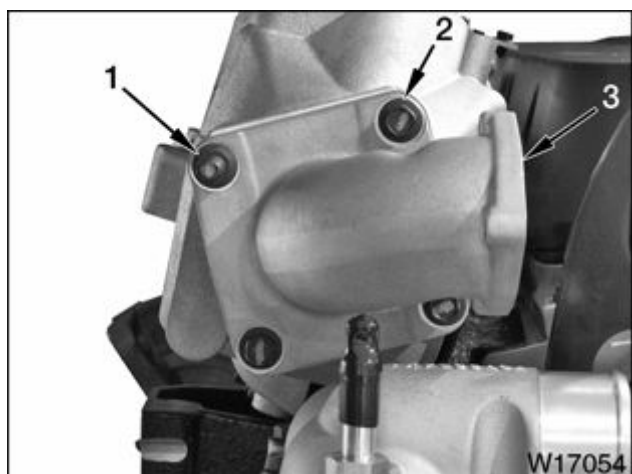

Figure 356 EGR cooler inlet elbow
3. Install EGR crossover tube to EGR cooler inlet elbow with new gasket (Figure 356), (item 1). Tighten three M8 x 30 hex flange bolts to standard torque (page 561).